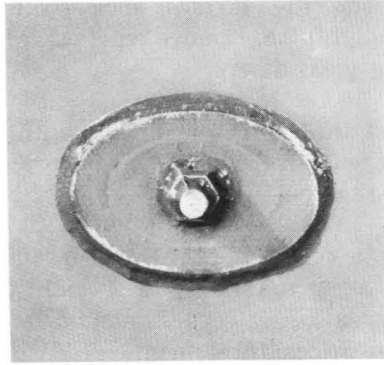

Fig. 11—Completed Class C Repair
4.28 Remove the masking tape, then center a strip of plastic film over the patch and tape it into place with cellophane tape along all edges. This plastic material is merely to protect the patch from the weather until such time as the adhesive becomes thoroughly set. Over a period of time, the tape will loosen and allow the plastic film to fall off. (See Fig. 11.)